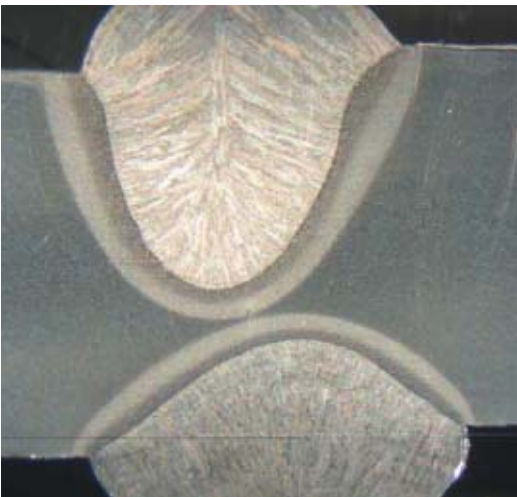

Fig. 1 — Excessive voltage or travel speed, insufficient current, or improper joint design can lead to insufficient penetration in the weld.
- **Insufficient penetration.** Caused by low current, high voltage, high travel speed, and/or improper joint design — Fig. 1.
To assist him with getting around better, welding instructors Jay Schimelfenig and Joel Johnson came up with an interesting idea: creating a chair that would lift him to a standing position and fit his 5-ft, 6-in. frame — Fig. 1.
Fig. 1 — Jay Schimelfenig (left) and Joel Johnson, welding instructors at North Dakota State College of Science, helped to make a sophisticated chair for their student.